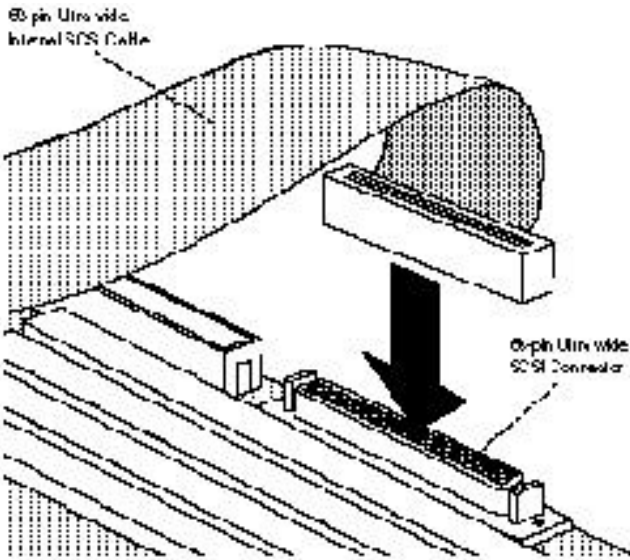

Figure 2-5: Attaching 68-pin Internal Ribbon Cable.
3. If you are connecting 8-bit internal SCSI devices, attach one end of the 50-pin cable to the 50-pin internal SCSI connector on the motherboard. If you are connecting 16-bit internal SCSI devices, attach one end of the 68-pin cable to the 68-pin internal SCSI connector on the motherboard. Figure 2-5 shows a typical installation of a 68-pin cable